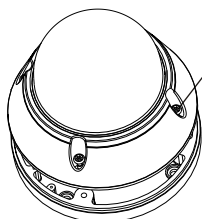

Figure 1
1. Loosen the four torx screws located midway up the front of the housing leave the screws intact in the front portion. (Fig. 1)